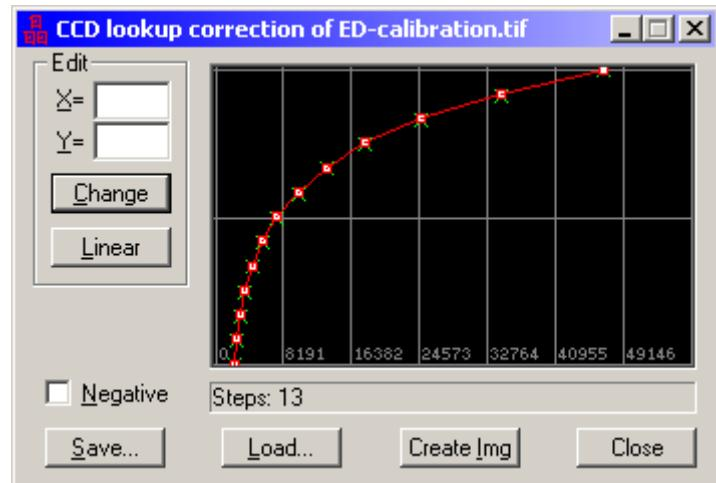

Figure 7-8: CCD correction dialogue showing the response curves of a calibration strip with stepwedges of standard optical densities.
- Click on the CCD correction icon to open the CCD correction dialogue (Fig.7-8).
- The plot in Fig. 7-8 shows the response curve of the CCD camera, as detected by CRISP/ELD. The response curve is based on the steps of the step wedge. The steps within the area specified are recognised by the program.